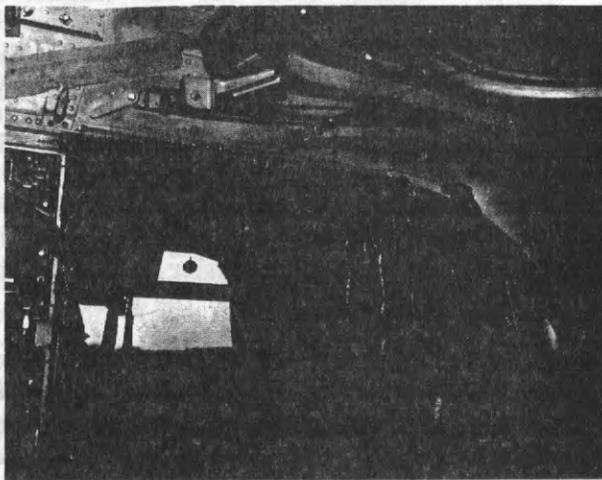

Figure 102. Front attachment point, CH-47 anchor line cable.
b. The permanently installed anchor line cable must be secure to the attachment points on the starboard side of the aircraft (figs. 102 and 103).